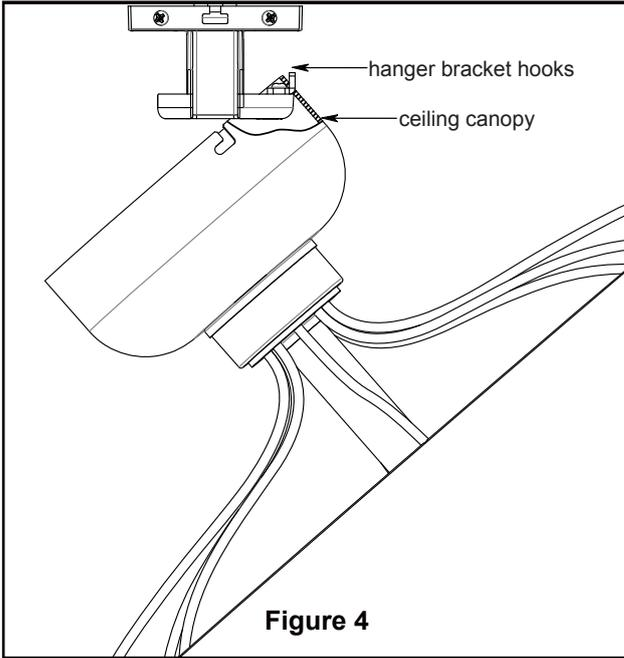

Figure 4
- 4. The side mounting strip holes of the ceiling canopy are hung on the hooks of the hanger bracket. (Figure 4)